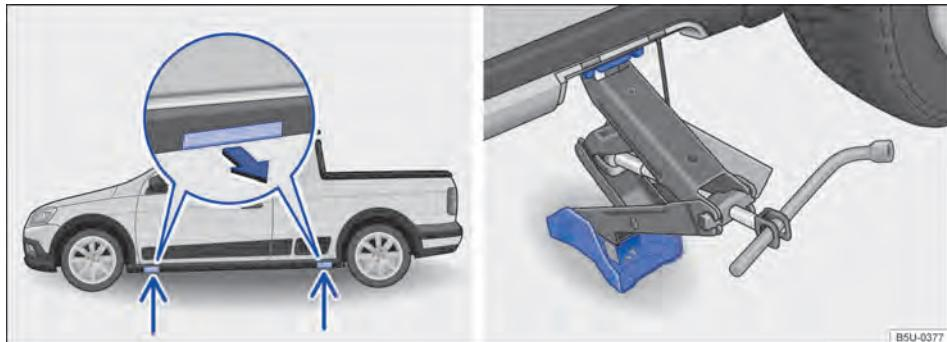

Fig. 206 Jacking points and vehicle jack at the rear left-hand side of the vehicle - vehicles with external sills.
The jack may be applied only at the jacking points shown (removable cover) → Fig. 206. Always use the jacking point closest to the wheel you are working on → .
7. Remove the jacking point access cover, in the direction of the arrow → Fig. 206.
9. Ensure that the entire surface of the foot of the jack is resting securely on the ground and that the foot of the vehicle jack is positioned precisely below the jacking point → Fig. 206.
10. Align the jack and, at the same time, raise the vehicle jack claw until it engages with the cross piece under the vehicle → Fig. 206.
- Fit the vehicle jack only at the points described. The vehicle jack claw must fit securely into the side member rib → Fig. 206.